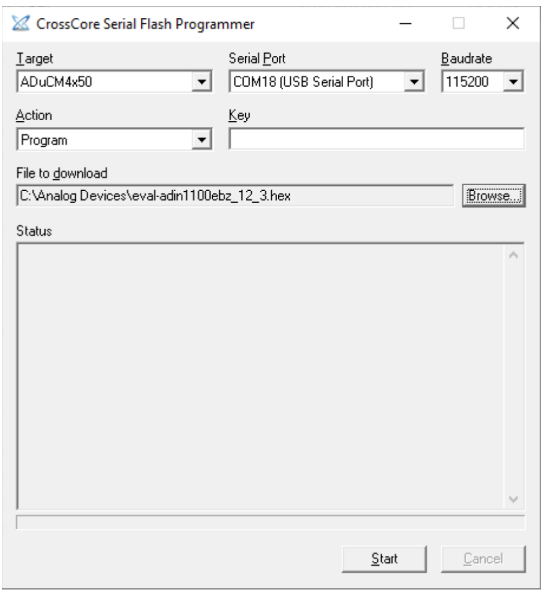

Figure 3. CrossCore Serial Flash Programmer
3. Set the programmer (see Figure 3) with the settings listed in Table 8.
4. For **File to download**, click **Browse** to download the firmware file on the PC (see Figure 3).